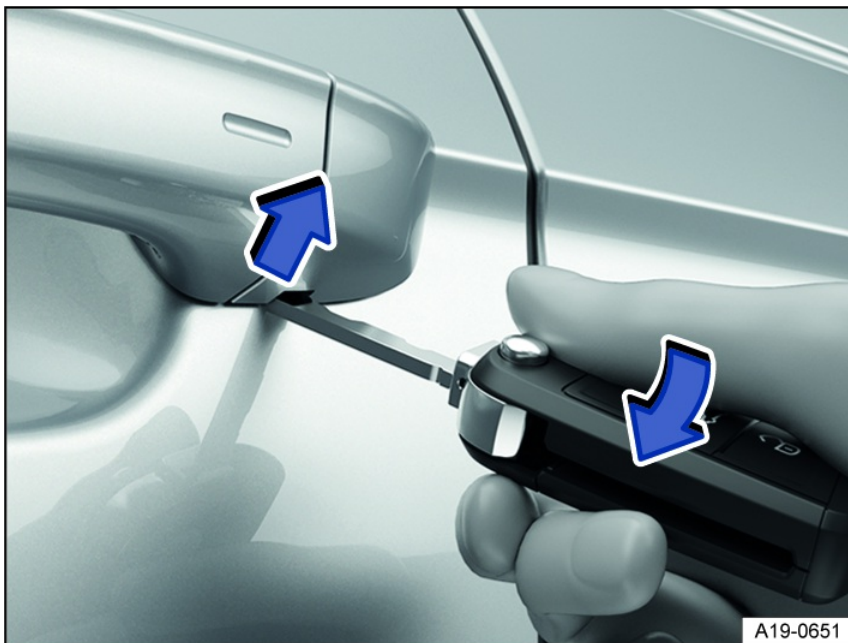

Fig. 61 Driver's door handle: prying off the cap.
3. Use the vehicle key to pry the cap off in the direction of the arrow fig. 61.